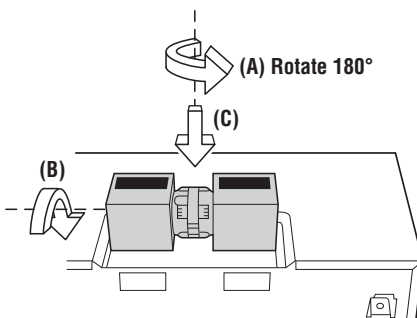

Figure 15
3. Rotate the Hood Fan Unit 180° so that the fan blade openings are facing the back of the oven. Note, you will need to lift the wire over the hood fan unit so the wire will clear. See Figure 15 (A). Then rotate the Hood Fan Unit 90° so that the fan blade openings are facing the top of the oven. See Figure 15 (B). Replace Hood Fan Unit into the oven. Be careful not to pinch the lead wire between the inner bracket and the Hood Fan Unit. Put the lead wire into Wire Box. See Figure 15 (C).